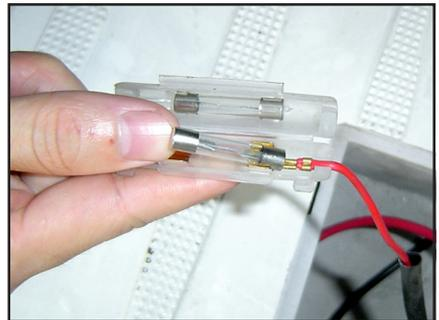

Fig. 29
- Remove each of the fuses for examination. (See Fig 29)